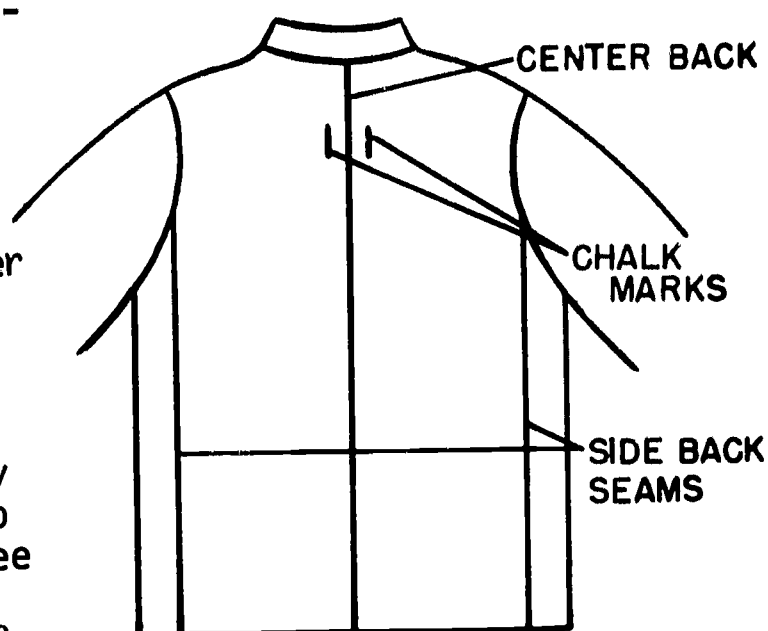

Figure 52.
3. Although the amount to be taken out of the back is marked by pinning a tuck in the center back seam, the alteration itself is made on all three back seams--center back and the two side back seams. Mark the depth of the tuck with chalk on the center back seam and remove the pins (see Figure 52).